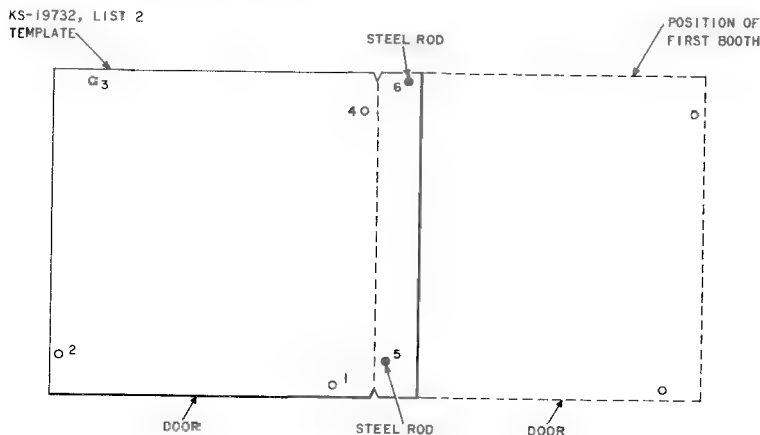

Fig. 13—Right to Left Layout for Drilling Mounting Holes
- (1) Place KS-19732, List 2 template in the position where the right-hand booth will be mounted with the "V" notches on chalk line. Holes 3, 4, and 6 should be to the right.
- (2) Repeat 3.18 (2).
- (3) Move template to the left and align template holes 5 and 6 with previously drilled holes 1 and 2, respectively (Fig. 13). Insert the two steel rods in these holes.
- (4) Repeat 3.18 (4).
(5) If a third booth is to be installed, move template to the left and align template holes 5 and 6 with previously drilled holes 2 and 3, respectively (Fig. 13). Insert the two steel rods in these holes.
(6) Repeat 3.18 (4).
(7) If additional booth positions are required, repeat 3.19 (5) and 3.18 (4) respectively.